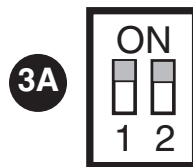

Figure 7
- Set push button switch 1 to ON (see Figure 7).